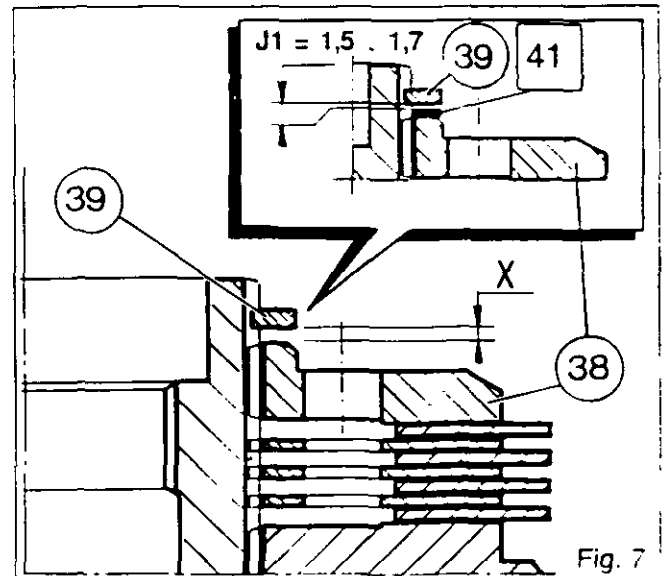

Fig. 7
### 41. Shimming J1 (Fig. 7)
**J1 = 1.5 to 1.7 mm** (Fig. 7).